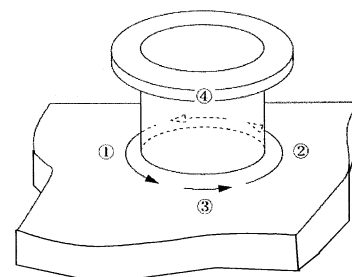

Fig. 2 Symmetrical tack welding on strongly restrained thick section work
- (6) You should progress symmetrically when you carry out tack welding on strongly restrained thick section components as shown in **Fig. 2**.